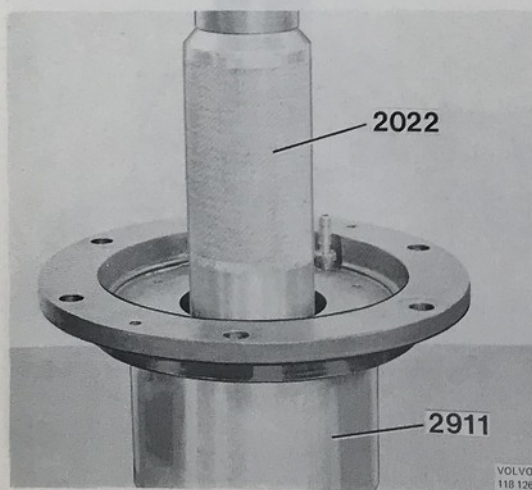

Fig. 92-62. Pressing out the bearing (worm gear)
25. Place the cover for the worm gear on 2911, see Fig. 92-62, and press out the bearing with 2022.